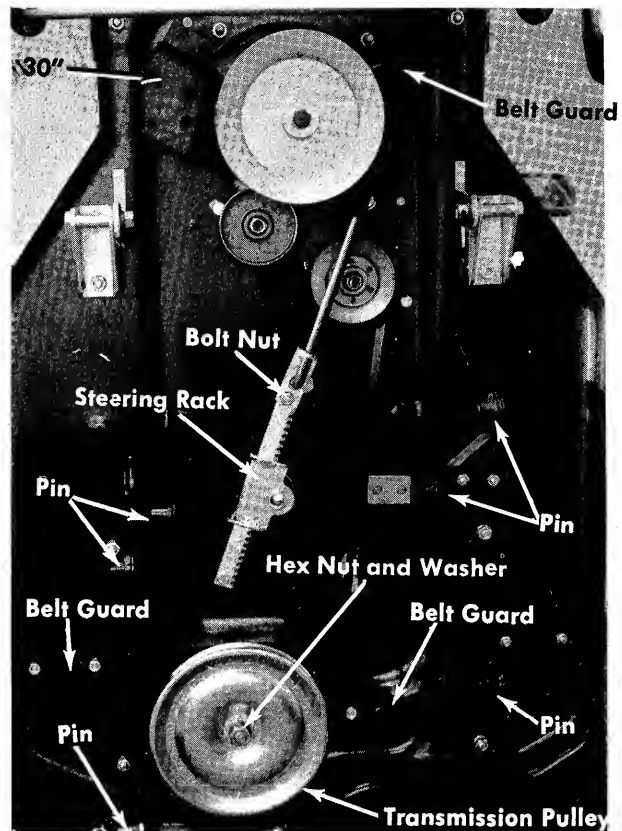

FIGURE 36. BOTTOM VIEW
- Step 9. Removing the transmission belt. See figure 36.
- Remove the transmission pulley by removing the hex nut and washer. See figure 36.